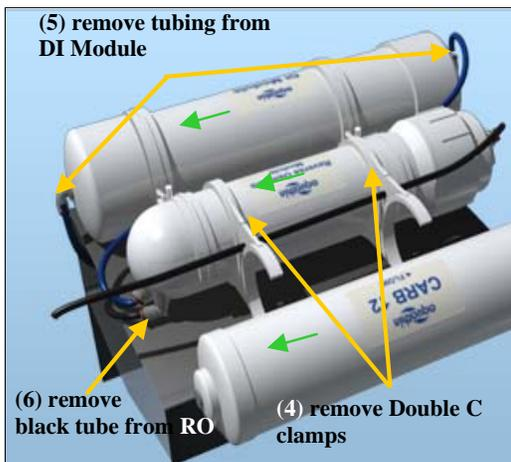

Figure 18: Steps 4-6
3. With the CARB 12 free of its connections, it can now be removed from the two “Double C” clamps holding it to the RO Module. *Note the direction of the “FLOW” arrow. You will need to install the new CARB 12 pre-filter in the same orientation. Refer to Figure 18 for steps 4—6.*